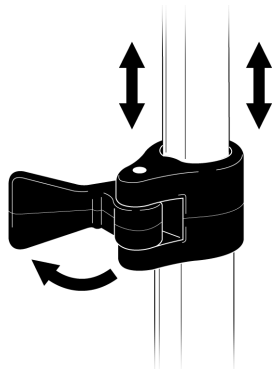

FIGURE 3
1. Release Extension Lock directly below SECTION 1 by swinging hinge outward as shown. The SECTION 1 above it can then be extended / retracted (FIGURE 3).